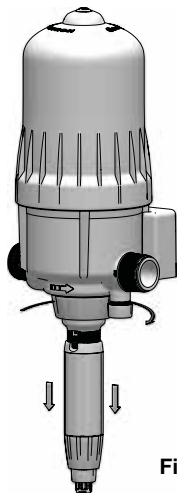

Fig. 3
- Unscrew the fixing nut on the dosing part by hand to release it by pulling downwards and rotating half a turn to see the correct dosing adjustment scale (**Fig. 3**).